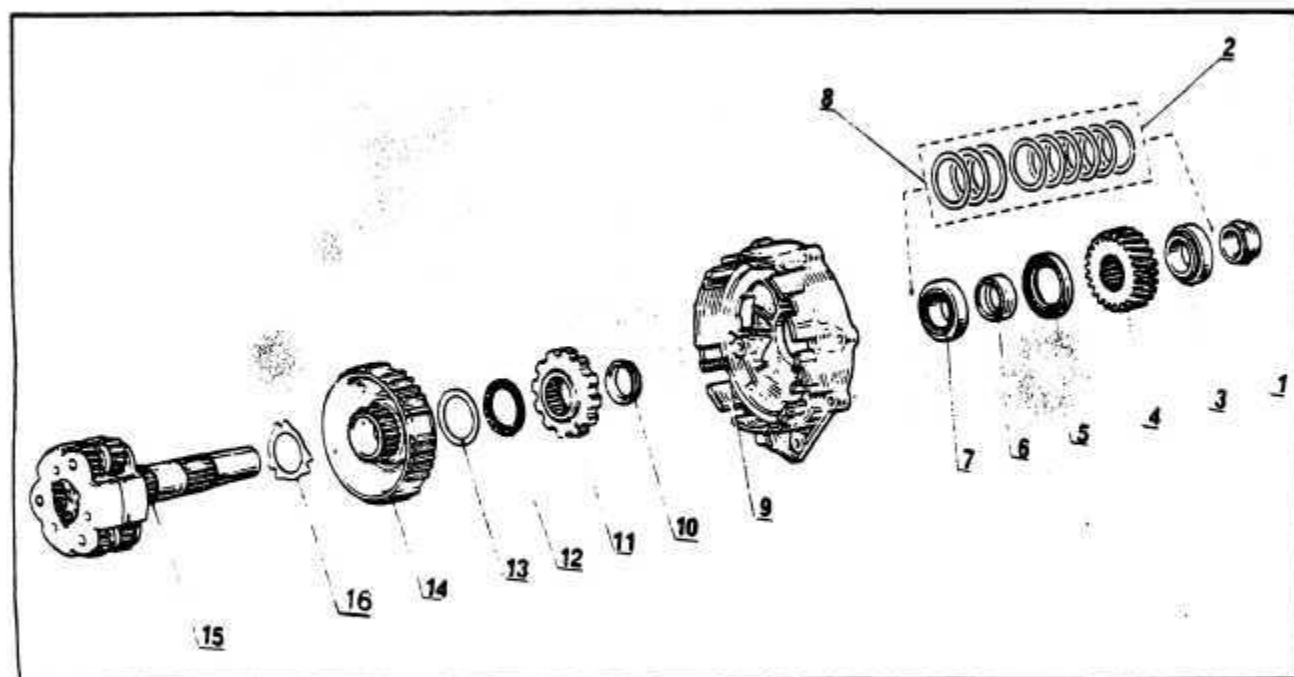

Fig. 71 PLANETARY CARRIER ASSEMBLY
FINAL DRIVE COMPONENT REPAIR**Planetary Gear Carrier — Fig. 71**
2. Remove the roller bearing and output gear using a suitable puller. *Fig. 71*
3. Remove the spacer sleeve No. 6 from the carrier shaft and separate the planetary carrier from the housing. *Fig. 71*
4. Remove the spacer No. 10 and park sprocket No. 11 from the carrier shaft. *Fig. 71*
5. Remove the needle bearing No. 12 and washer No. 13 from the carrier shaft. *Fig. 71*
6. Remove the brake hub No. 14 and thrust washer No. 16 from the carrier shaft. *Fig. 71*
7. Remove the seal No. 5 and roller bearing No. 7 from the housing. *Fig. 71*
1. Lubricate the thrust washer No. 16 with automatic transmission fluid and install on the carrier shaft. *Fig. 71*
2. Install the brake Hub No. 14 on the carrier shaft. *Fig. 71*
5. Install the spacer No. 10 on the carrier shaft with its larger diameter facing the park sprocket. *Fig. 71*